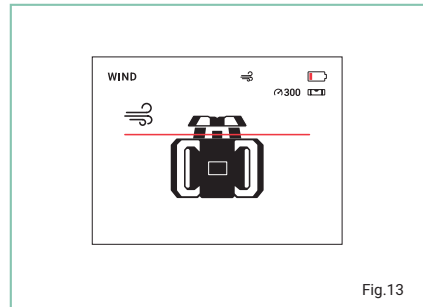

Fig.13
- Press the wind control button on the laser level to enter into wind mode. The LCD screen will display the word 'wind' when in wind mode (Fig.13). The following icon will be displayed on the LCD screen on the laser level and remote control: